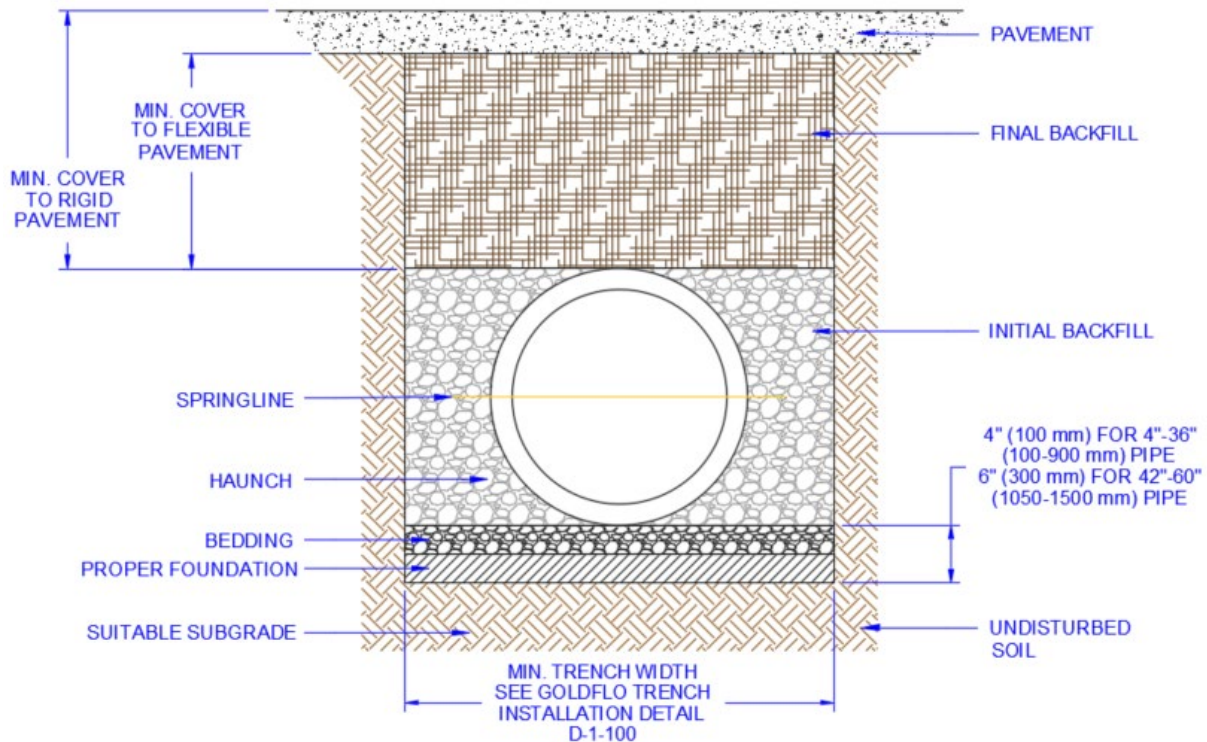

Figure 1: HDPE Dual Wall Standard Trench Cross Section
All cover heights provided in this document assume a standard trench installation, as shown in Figure 1 below. Refer to GOLDFLO Trench Installation Detail D-1-100 for more information about installation requirements.
Note: Minimum covers for AASHTO HL-93, H-25 or HS-25 traffic loads, Class III backfill material compacted to 95% standard Proctor density around the pipe. Refer to GOLDFLO Trench Installation Detail D-1-100 (Figure 1) for more information about installation requirements.
- 4) Installation is assumed to be a trench installation (see Figure 1) in accordance with ASTM D2321 and Prinsco’s *Stormwater Installation Guide* and as outlined in the *Structures Design Guide*.
- 3) Installation assumed to be a trench installation (see Figure 1) in accordance with ASTM D2321 and Prinsco's *Installation Guide*. Backfill material must be uniformly distributed around the pipe and between the corrugations. Refer to the *GOLDFLO Trench Installation Detail D-1-100* and *Structures Design Guide* for more information.